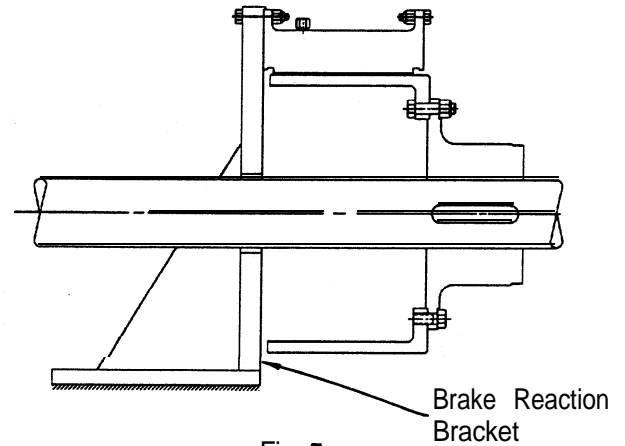

Fig. 5
2.1.3 Figure 5 illustrates a typical VC brake application. The drum and drum hub are attached to the shaft which is to be stopped. The element is attached to a rigid reaction bracket.